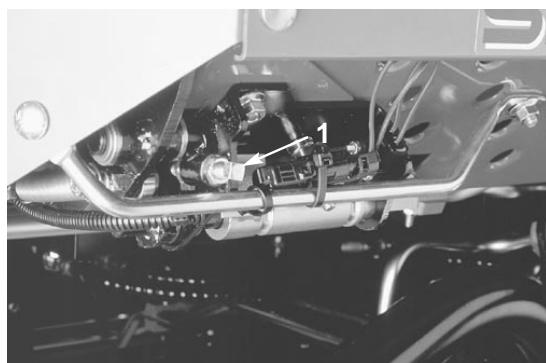

Figure 8
**Note:** Mow speed is set at the factory to 6 mph. It can be increased or decreased by adjusting the speed stop screw (Fig. 8)